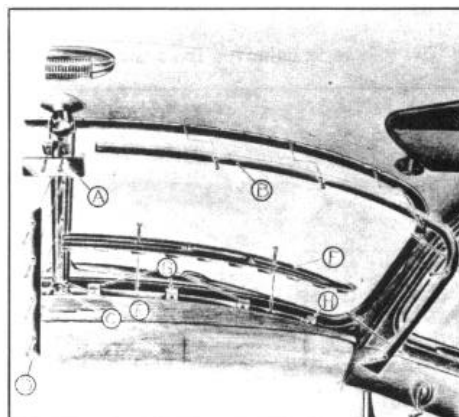

FIGURE 36
1. Remove the rear view mirror (A), Figure 36, and antenna control knob.
2. Remove antenna lead plug from radio. Loosen lock nut (C) at joint cover (E), and remove nut under dash attaching lead rod assembly at moulding joint cover (E). Lower the lead rod and detach from lead wire on control. Remove windshield inside center bar.
3. Remove antenna windshield inside center bar (ID), moulding joint cover (E), upper and lower windshield garnish mouldings (B and F), and four steel windshield retainers (G and H).
3. Maneuver glass into position by carefully lifting inside lower corner with a tapered wood wedge. Shim as required along bottom of weatherstrip and glass assembly to bring inner edge parallel to center bar. Locate shims so that they will not interfere with installation of windshield retainers (G and H), Figure 36.
**NOTE: Locate the shims so that they will not interfere with the installation of the lower retainers (G) and (H), Figure 36, Page 20**